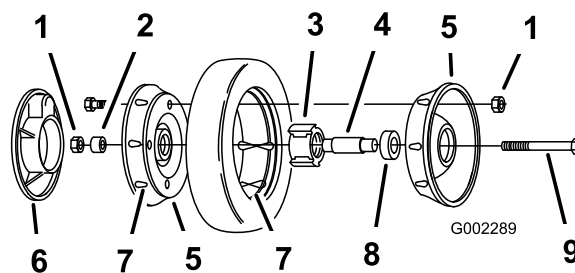

Figure 28
3. Remove the bolt, the wheel spacer, and the locknut mounting the wheel to the pivot arm (Figure 28).
4. Separate the wheel halves from the tire by removing 4 bolts and 4 locknuts (Figure 28).
Note: If you remove the bearings from the bearing/hub assembly, remove them by pressing on the bearing spacer (Figure 28).
1. Position the tire onto one wheel half, aligning the lugs on each (Figure 28).
2. Place the bearing/hub assembly into the center hole of the wheel half. Ensure that the legs of the hub are positioned over the flange of the hole (Figure 28).
3. Place the other wheel half onto the bearing/hub assembly, aligning the wheel and the tire lugs and the mounting holes (Figure 28).
4. Using 2 fully threaded screws or bolts (1/4-20 x 1.50 inch) and non-locking nuts, loosely secure the wheel halves together. Mount the screws or bolts in the opposing holes (Figure 28).
5. Check the alignment of all parts and tighten the bolts, alternating from side to side for a uniform fit, until the wheel halves are drawn together (Figure 28).
6. Install the 2 bolts and 2 locknuts previously removed in the remaining holes in the wheel halves and tighten. Remove the 2 long screws or bolts and replace them with 2 bolts and 2 locknuts (Figure 28).
7. Install the wheel to the pivot arm with the bolts, a spacer, and a locknut. Ensure that the spacer is positioned between the wheel hub and the pivot arm (Figure 28).